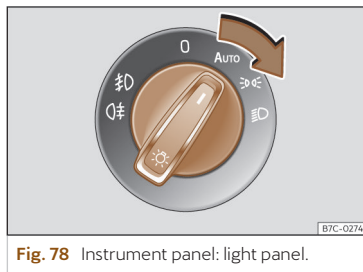

Fig. 78 Instrument panel: light panel.
- Turn on the ignition and turn the light switch to the desired position >>> Fig. 78: